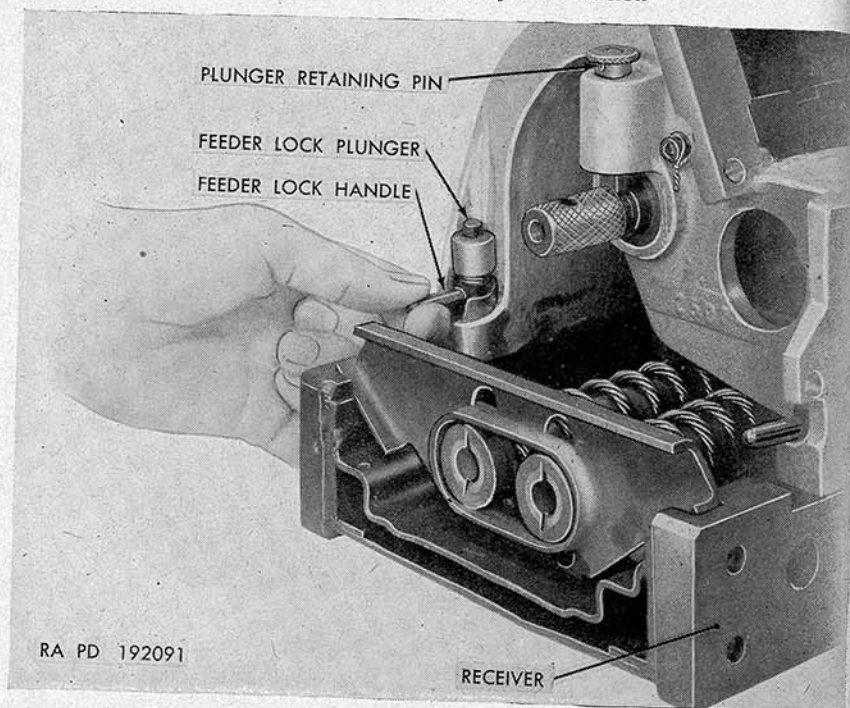
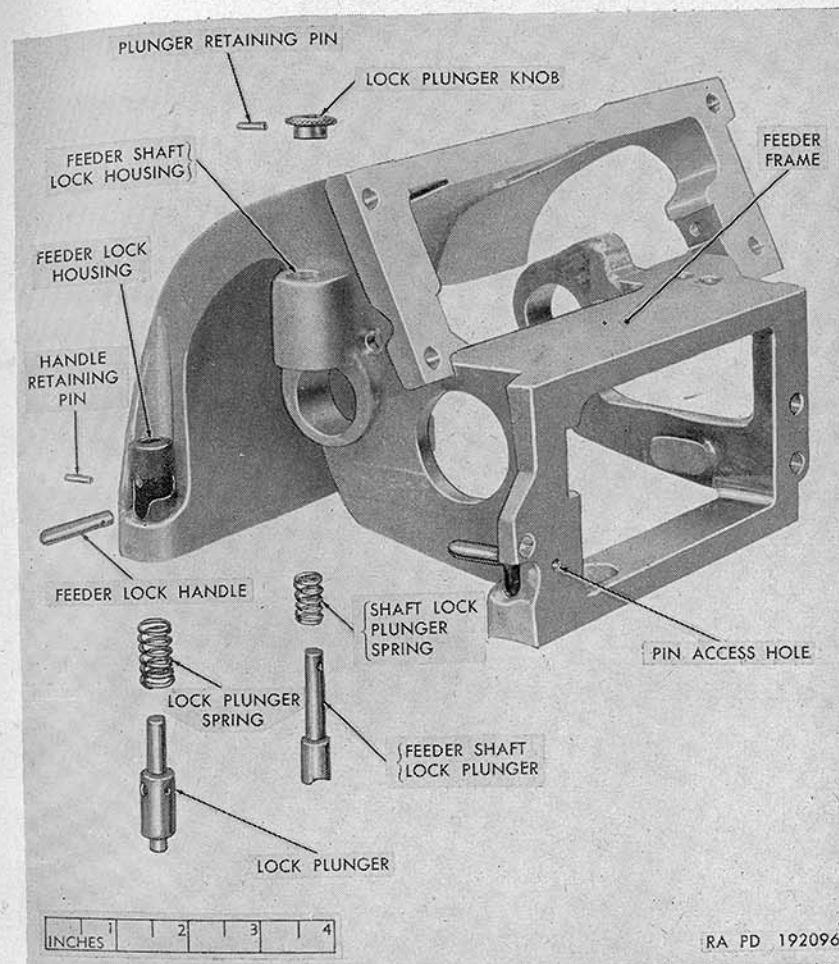

Figure 51. Unlocking feeder mechanism from receiver.
Figure 56. Feeder shaft lock parts and feeder lock parts—exploded from feeder frame.
- Lift feeder lock handles (fig. 51) to disengage feeder lock plungers from the receiver. Rotate lock handle towards the feeder shaft to retain lock plungers upwards.
h. Disassemble the feeder shaft latch by driving out the plunger retaining pin (fig. 51). This frees the feeder shaft lock plunger, the lock plunger spring, and the lock plunger knob (fig. 56).
i. Disassemble the feeder lock by driving out the handle retaining pin (fig. 56). To do this, it is necessary to align the pin with the access hole provided in the feeder frame, and hold the lock handle upward against the spring's action.
j. After pin is driven out, withdraw the feeder lock handle (fig. 56) from the lock plunger. Be sure to hold the lock plunger inward until the handle is withdrawn and then release the plunger slowly or the spring will drive the plunger out rapidly.
g. Check tension of feeder shaft lock plunger spring and lock plunger spring (fig. 56) to be sure they fulfill their functions.
- (1) Insert the lock plunger spring over the lock plunger and install in the feeder lock housing from the underside (fig. 56).
- (2) Position lock plunger so that the large hole is facing toward the rear. Push plunger in against spring until large hole is visible.
- (3) Insert the feeder lock handle (fig. 56). The lock handle must be positioned so that the hole drilled through its forward end aligns with the smaller hole in the lock plunger.
- (4) Move handle upward, until the smaller hole in the lock plunger is visible and then insert handle retaining pin (fig. 56).
- (5) Repeat operation for second feeder lock.
- (1) Slip the shaft lock plunger spring over the shaft lock plunger, and insert the assembled unit into the feeder shaft lock housing (fig. 56) from the underside.
- (2) Push the feeder shaft lock plunger inward, against the spring, until it protrudes from the top.
- (3) Position the lock plunger knob on the feeder shaft lock plunger.
- (4) Aline the hole in the knob with the hole in the plunger and drive in the retaining pin (fig. 56).
e. Rotate and release feeder lock (fig. 51). Make sure feeder is locked securely by checking position of the lock plunger. It must be flush with the top surface of the feeder lock housing.